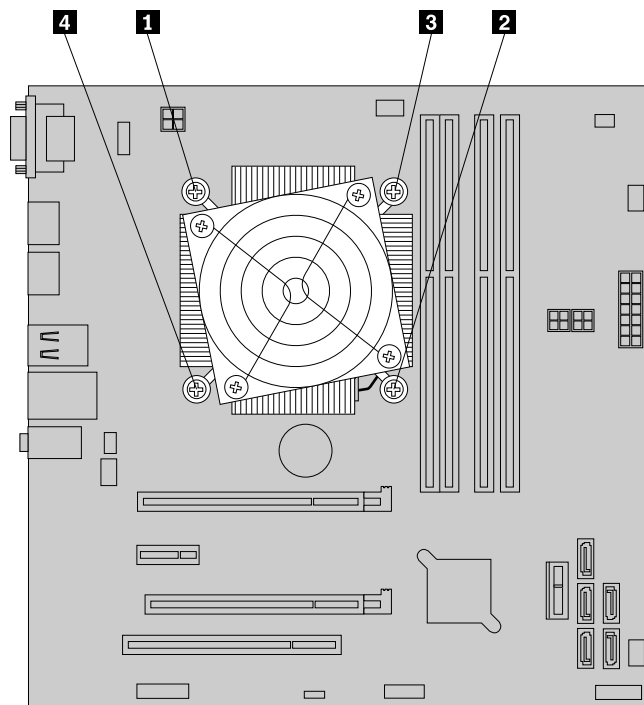

Figure 59. Removing the heat sink and fan assembly
9. Follow this sequence to install the four screws to secure the new heat sink and fan assembly. See Figure 59 “Removing the heat sink and fan assembly” on page 78.